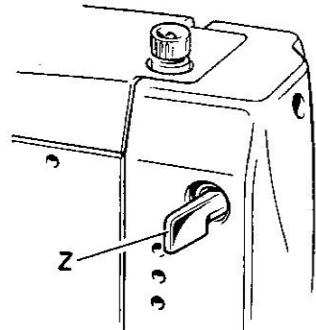

Fig. 19
- To put the light on, move switch « Z » towards the right, (fig. 19).